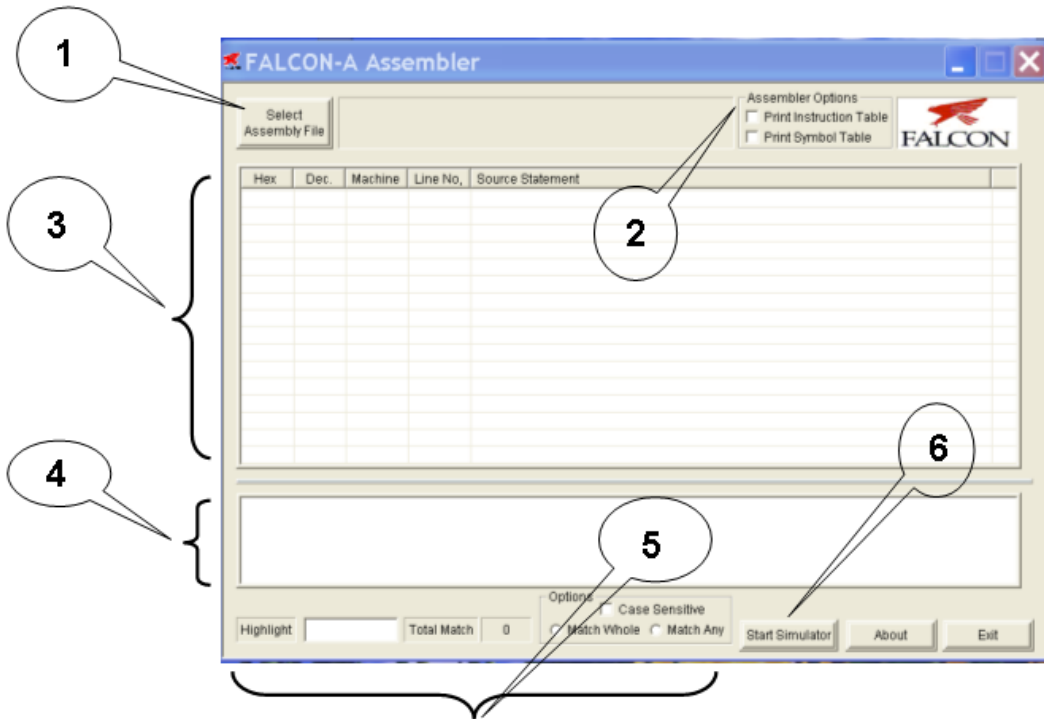

Figure 1
Figure 1 shows a snapshot of the FALCON-A Assembler. This tool loads a FALCON-A assembly file with a (.asmfa) extension and parses it. It shows the parse results in an error log, lets the user view the assembled file's contents in the file listing and also provides the features of printing the machine code, an Instruction Table and a Symbol Table to a FALCON-A listing file. It also allows the user to run the FALCON-A Simulator.
*Select Assembly File:* Labeled as “1” in Figure 1, this feature enables the user to choose a FALCON-A assembly file and open it for processing by the assembler.
*Assembler Options:* Labeled as “2” in Figure 1.
*List File:* Labeled as “3”, in Figure 1, the List File feature gives a detailed insight of the FALCON-A listing file, which is produced as a result of the execution of the 1st and 2nd-pass. It shows the Program Counter value in hexadecimal and decimal formats along with the machine code generated for every line of assembly code. These values are printed when the 2nd-pass is completed.
*Error Log:* The Error Log is labeled as “4” in Figure 1. It informs the user about the errors and their respective details, which occurs in any of the passes of the assembler.
*Search:* Search is labeled as “5” in Figure 1 and helps the user to search for a certain input with the options of searching with “**match whole**” and “**match any**” parts of the string. The search also has the option of checking with/without considering “**case-sensitivity**”. It searches the List File area and highlights the search results using the yellow color. It also indicates the total number of matches found.
*Start Simulator:* This feature is labeled as “6” in Figure 1. The FALCON-A Simulator is run using the FALCON-A Assembler’s Start Simulator option. The FALCON-A Simulator is invoked by the user from the FALCON-A Assembler. Its features are detailed as follows:
- To start FALSIM (the FALCON-A assembler and simulator), double click on the FALSIM icon. This will display the assembler window, as shown in the Figure 1.